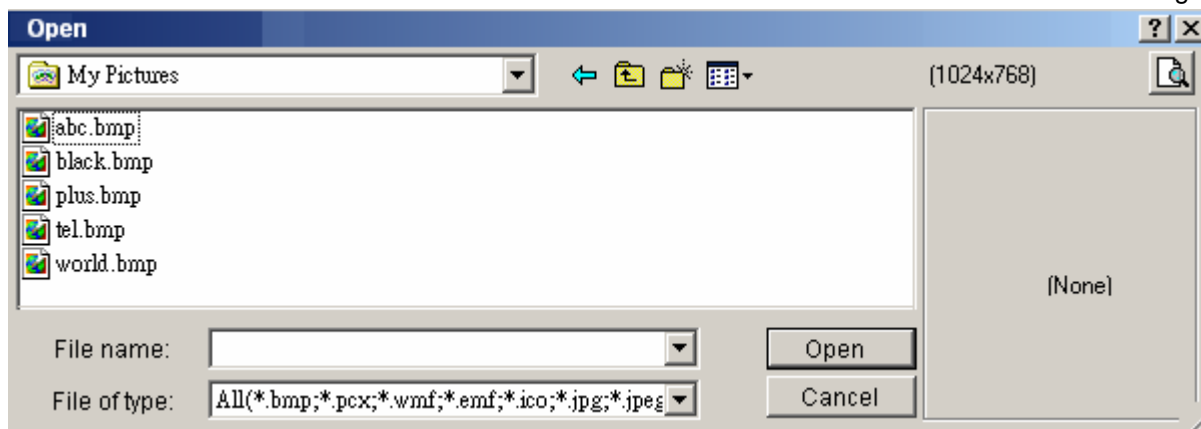

Fig.12.2
6. Click the graphic file name, and then click Open.(refer to the Fig.12.2)